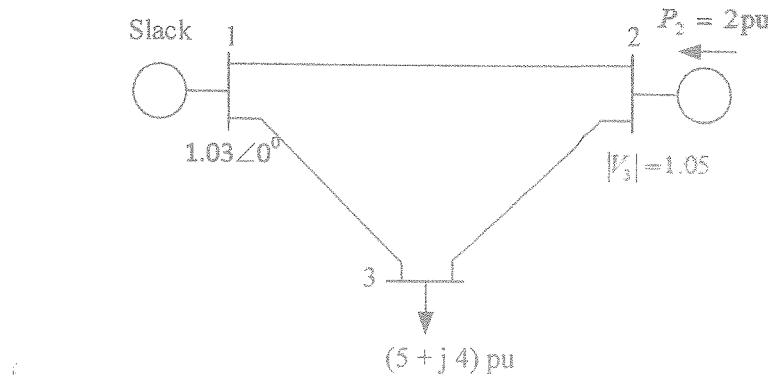

Figure Q3
- Q3 The single-line diagram of a three-bus power system with generation at buses 1 and 2 is shown in Figure Q3. System parameters are given in per unit based on 100 MVA base. The voltage at bus 1 is $V_1 = 1.03 \angle 0^\circ$ per unit. Voltage magnitude at bus 2 is fixed at 1.05 per unit with a real power generation of 2 per unit. A load draws $(5+j4)$ per unit from bus 3. The per unit line impedances and charging susceptances are given in Table Q3.
- a) Calculate the bus admittance matrix for the three-bus network in Figure Q3.